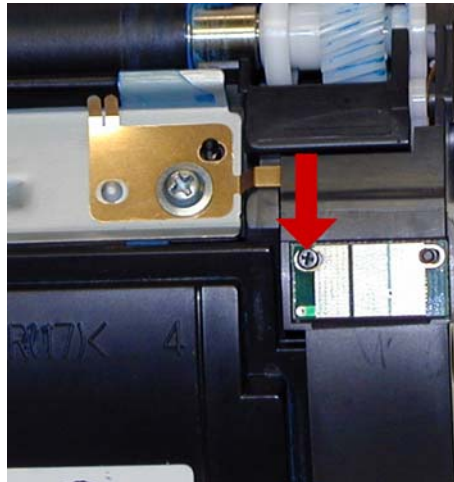

Figure 31
26) Replace the chip by removing the small Phillips screw. See **Figure 31**